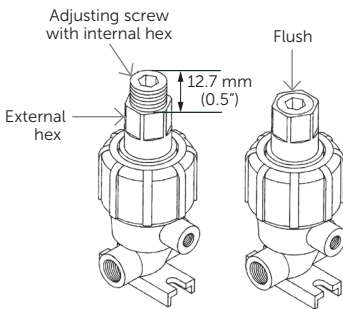

Figure 4.
7. Make sure the diaphragm preload tool (T2) adjusting screw is out 12.7 mm (½") before placing the diaphragm preload tool (T2) onto the retainer nut (P12) and securing it in place with the outer cap (P9). (See Figure 4.)
8. While holding the diaphragm preload tool (T2) external hex from turning with an adjustable wrench (S5), turn the internal hex on top of the diaphragm preload tool (T2) with the ⅜" allen wrench (S6) clockwise until it is flush with the top surface of the diaphragm preload tool (T2). (See Figure 4.)